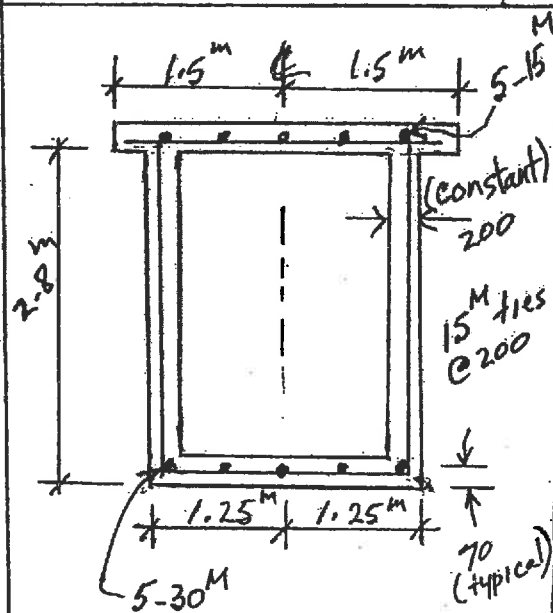

FIGURE B3
- B3. A cross-section of a reinforced concrete box is shown in Figure B3. Calculate its moment (M_r) and shear (V_r) resistances. Use $f'_c = 35$ MPa and $f_y = 400$ MPa.